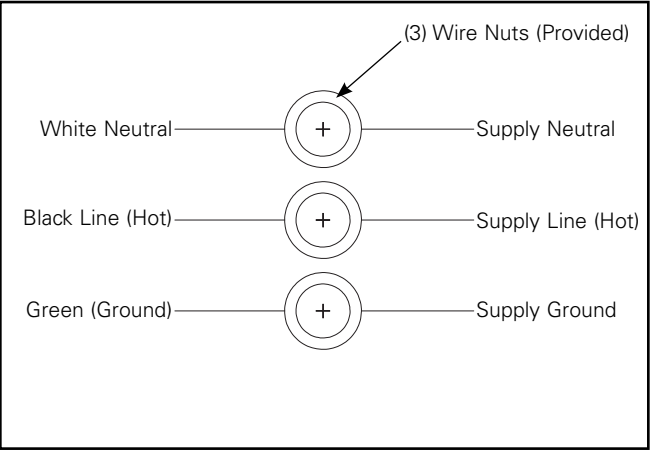

Figure 8. Wiring Diagram
2. Make wiring connections inside the housing. Refer to wiring diagram for power connections. Connect the supply wires to the appropriate luminaire leads with the supplied wire nuts. (Figure 8.)